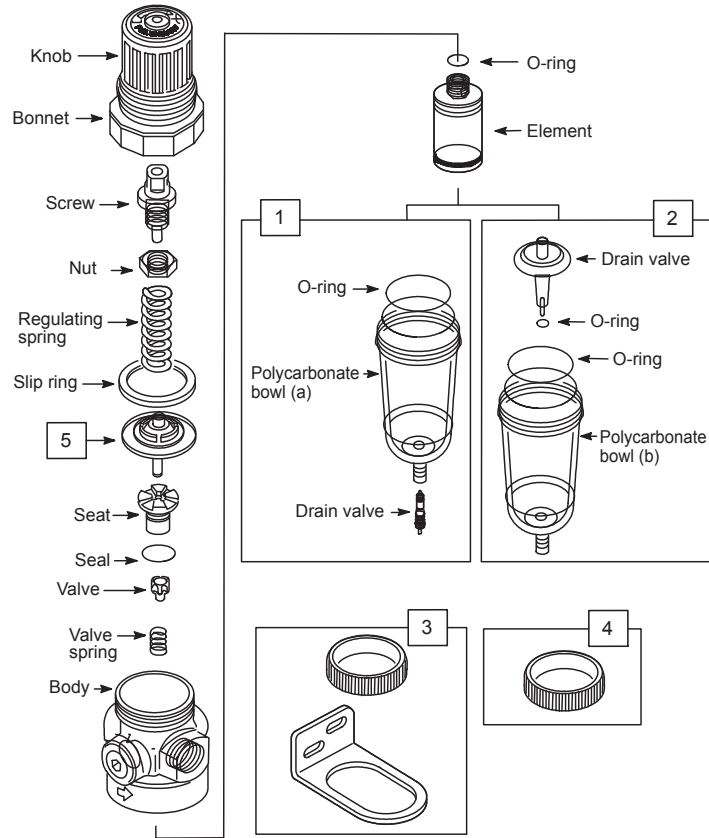

figure 2
OPERATING INSTRUCTIONS (See Figure 2)
- 1 **Disassembly (See Figure 2)**
- Disassemble in general accordance with the parts illustrated in Figure 2. Do not remove the drain unless replacement is necessary. Remove and replace only if drain malfunctions.
- 2 **Cleaning(See Figure 2)**
- 3 **Assembly (See Figure 2)**
- Assemble filter as shown on Figure 2.